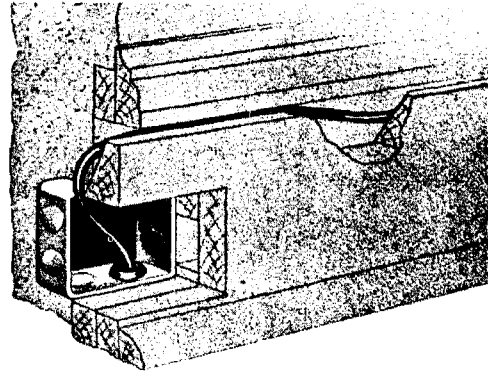

Fig. 8 – Wiring from Conduit to Baseboard
- Run wires along baseboards, on top of picture moldings, or on door or window casings, so that they will be as inconspicuous as possible (see Fig. 8, 9, and 10).